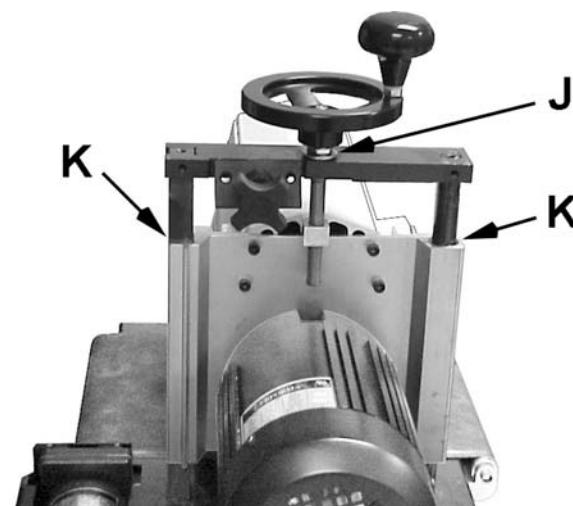

Figure 21
1. To reduce the handwheel backlash, tighten the *locknut* on the height adjustment screw (J, Fig. 21).
2. Thoroughly lubricate all mating surfaces (K, Fig. 21) and height adjustment screw.